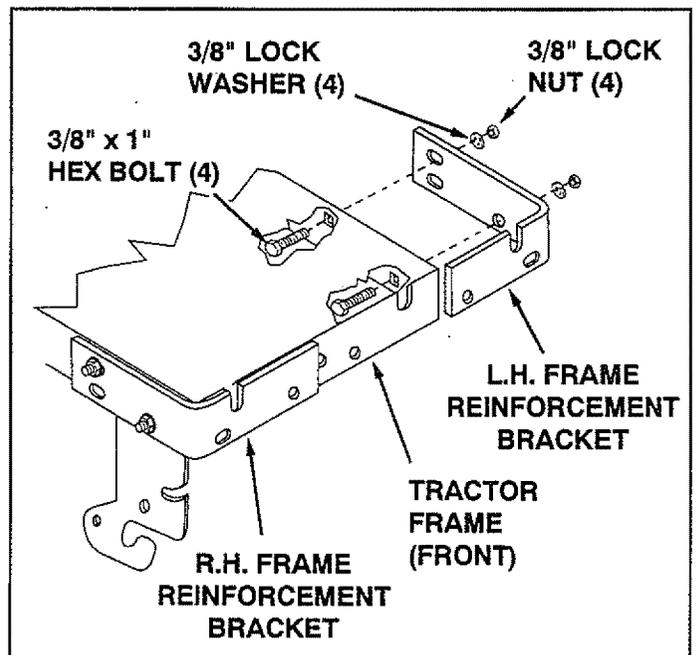

FIGURE 3
- Attach R.H. and L.H. frame reinforcement brackets to front of tractor frame using four 3/8" x 1" hex bolts, four 3/8" lock washers and four 3/8" lock nuts. **Do not tighten.** See figure 3.